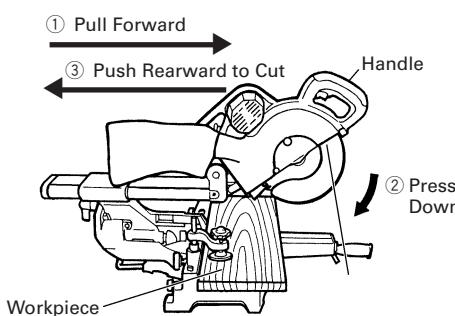

Fig. 30
Then press down on the handle and slide the saw blade back to cut the workpiece as indicated in Fig. 30. This facilitates cutting of workpieces of up to 3-11/32" (85mm) in height and 12-9/32" (312mm) in width.
- * For slide cutting, follow the procedures indicated above in Fig. 30.